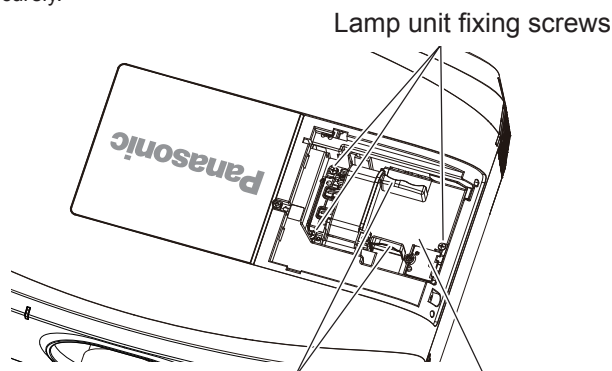

Fig. 2 Lamp unit fixing screws
- Remove the lamp unit. (Fig. 2)**